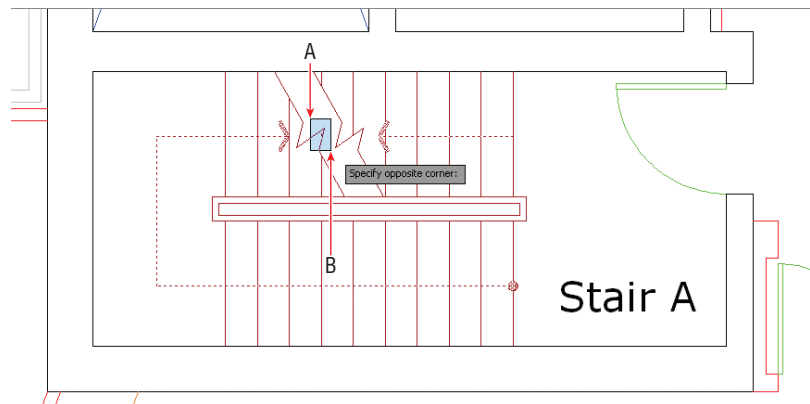

FIGURE 4.4 Removing a short line from the selection set with an implied window
- Click point A and then B, as shown in Figure 4.4. This implied window selects the short line segment trapped in the break line and removes it from the selection set.